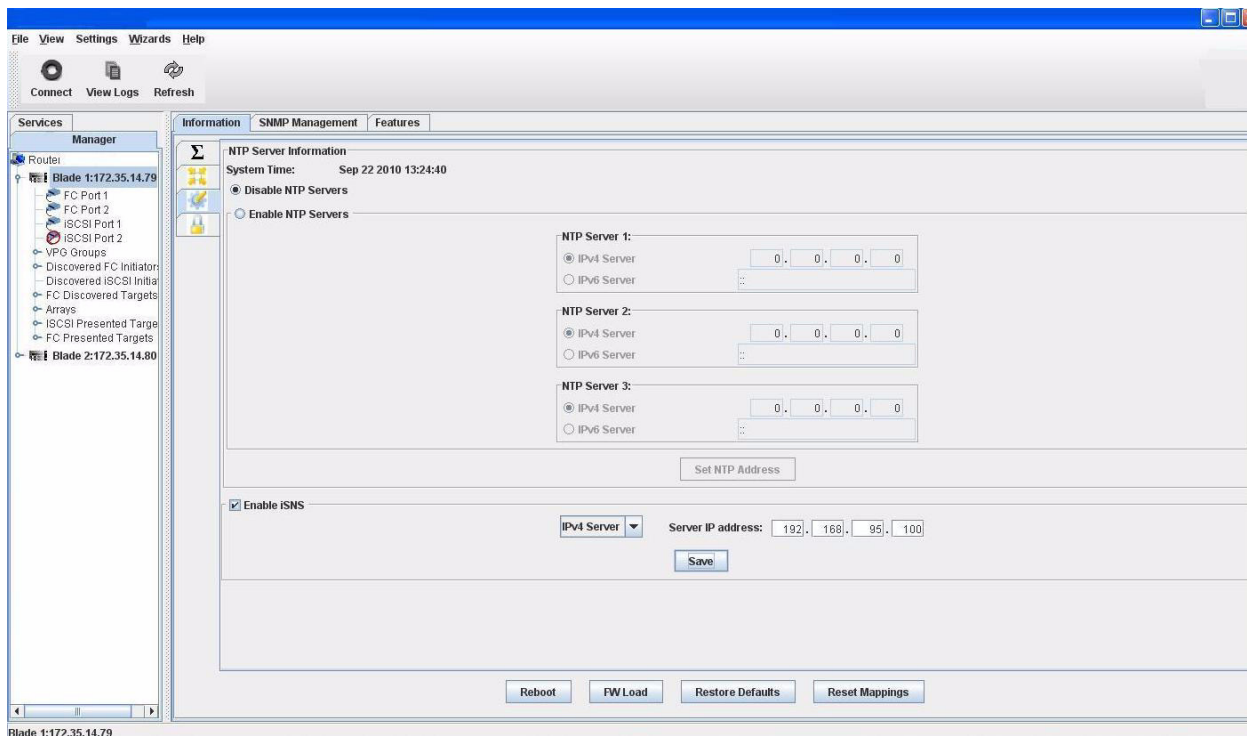

Figure 3-1. Creating a Discovery Domain in SANsurfer Router Manager
- b. On the Information page (Figure 3-1), select the **Enable iSNS** check box, enter the iSNS server details, and then click **Save**.